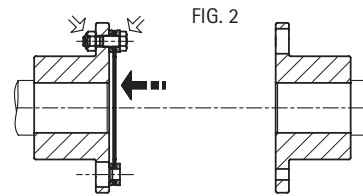

FIG. 2
4.1.4 Ensure that the flanges of the hubs (1) and the spacer (4) are perfectly degreased. Unpack the discs and the screws. Mount the disc-pack (3) on one hub (1) with screws (2) and nuts (5) in the direction shown on the fig 2. Tighten to torque T mentioned while holding the screws still and turning the nuts. See tabulation for tightening torque (T Nm) and socket size (s mm).
- 4.1.4 Ensure that both spacer ends (2) and DP flange (1.1) are perfectly degreased. Mount (see fig. 2) hub sub-assemblies (1) on spacer (2) with screws (3) and washers (4). Tighten screws (3) uniformly (tightening torque T3). See tabulation for correct tightening torque (Spacer T3 Nm) and key size (s mm).